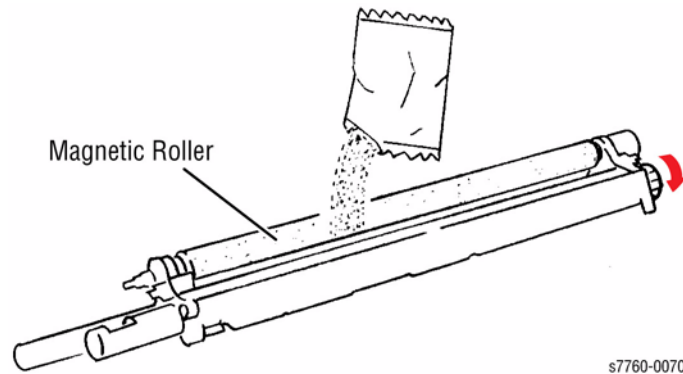

Figure 4 Installing Developer
2. Rotate the Drive Gear while installing a new Developer (Figure 4).